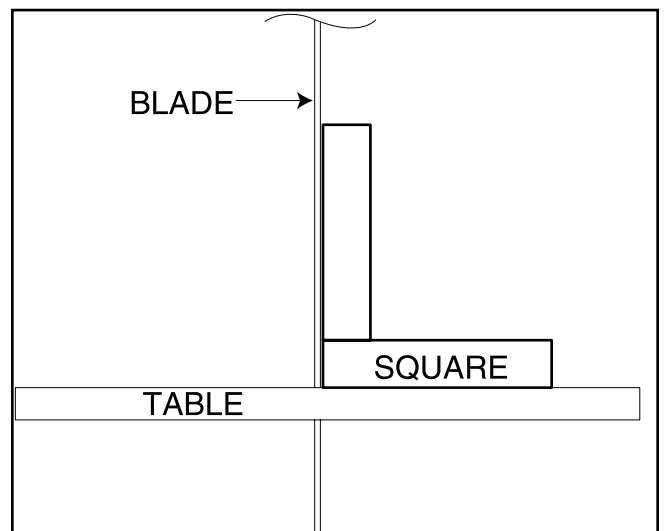

Figure 20. Squaring table to blade.
2. Raise the upper blade guide assembly and place a 6" adjustable square or try-square on the table against the blade. **See Figure 20.** Adjust the positive stop adjusting bolt so that the table is positioned at a 90° angle to the blade.